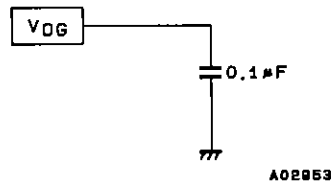

Fig. 2
2. Connect V_{OG} to ground through a 0.1 μF capacitor.(See Figure 2.)